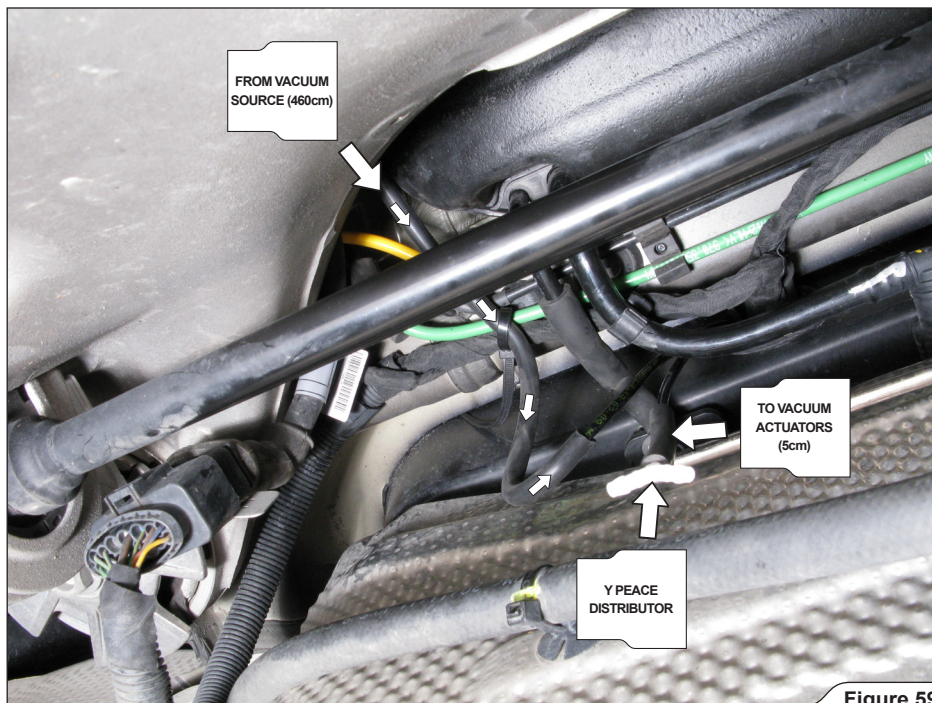

Figure 59
7. Link the Akrapovič vacuum hose (460cm) from vacuum source to the PVC vacuum tube leading into the luggage compartment and connect the plastic Y piece distributor to the PVC vacuum tube leading out of the luggage compartment, using Akrapovič 5cm vacuum hose (**Figure 59**). v